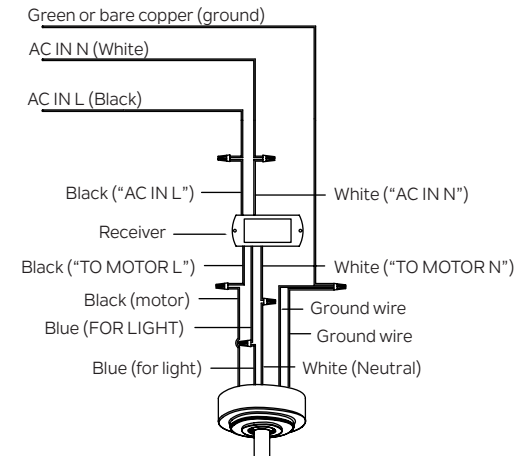

Fig. 14
Step 2. Motor to Receiver Electrical Connections: Connect the BLACK wire from the fan to BLACK wire marked "TO MOTOR L" from the receiver. Connect the WHITE wire from the fan to the WHITE wire marked "TO MOTOR N" from the receiver. Connect the BLUE wire from the fan to the BLUE wire marked "FOR LIGHT" from the receiver. Secure all the wire connections with the plastic wire connectors provided. (Fig. 14)
Step 3. Remote Receiver to Outlet Box Electrical Connections: Connect the BLACK (hot) wire from the ceiling to the BLACK wire marked "AC IN L" from the receiver. Connect the WHITE (Neutral) wire from the ceiling to the WHITE wire marked "AC IN N" from the receiver. Secure all the wire connections with the plastic wire connectors provided. (Fig. 14)
Step 4. If your outlet box has a ground wire (green or bare copper) connect it to the fan ground wires. Otherwise, connect the fan ground wire to the mounting bracket. Secure the wire connection with a plastic nut provided. After connecting the wires, spread them apart so that the green and white wires are on one side of the outlet box and black and blue wires are on the other side. (Fig. 14)